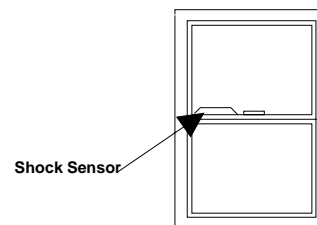

Figure 2. Mounting Options for Door/Window Styles
- Always mount the shock sensor so that the detector is on the frame and not on glass, solid, or hollow-core doors. See Figure 2 for mounting locations.